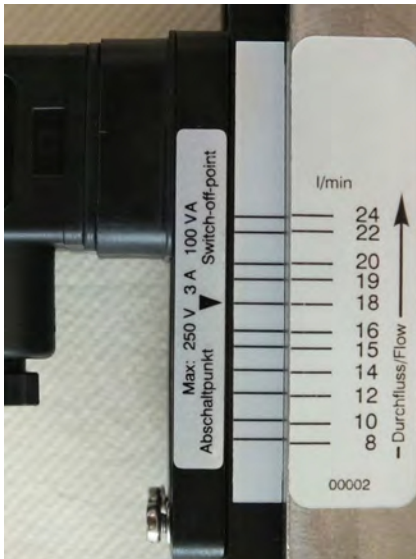

Fig. 34: Reading-off the switch point value
1. Make sure that the setting arrow, the scale mark on the positioning aid label (adhesive label on the guide rail) and the appropriate scale mark on the device body are in alignment. (Fig. 34).